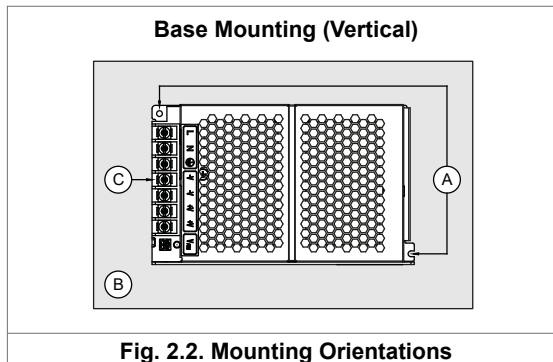

Fig. 2.2. Mounting Orientations
► **PMH-100WCL□, PMH-100WCM□, PMH-150WCL□** (Refer to Fig. 2.2)